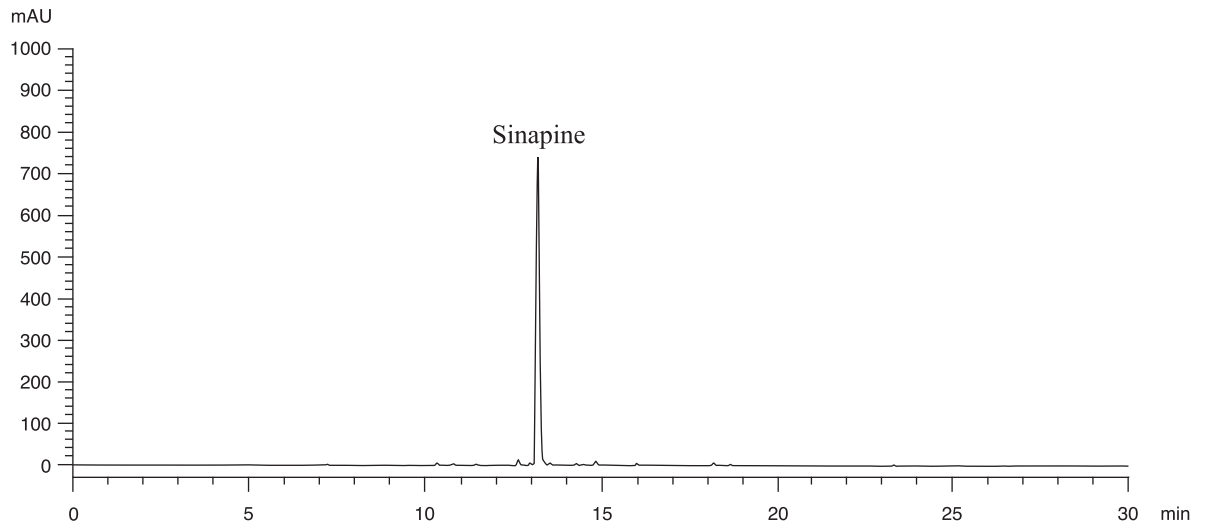

Figure 7 A reference assay chromatogram of dried ripe seed of *Sinapis alba* L. extract
The *R* value between sinapine peak and the closest peak in the chromatogram of the test solution should not be less than 1.5 (Fig. 7).
Inject 10 μ L of the test solution into the HPLC system and record the chromatogram. Identify sinapine peak (Fig. 7) in the chromatogram of the test solution by comparing its retention time with that in the chromatogram of sinapine thiocyanate Std-AS. The retention times of sinapine peaks from the two chromatograms should not differ by more than 5.0%. Measure the peak area and calculate the concentration (in milligram per litre) of sinapine thiocyanate in the test solution, and calculate the percentage content of sinapine (the percentage content of sinapine thiocyanate \times 0.84, where 0.84 is the molar mass ratio of sinapine and sinapine thiocyanate) in the sample by using the equations as indicated in Appendix IV (B).